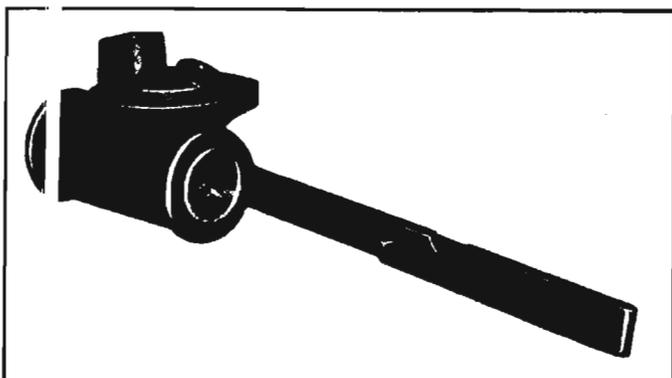

Fig. 5-23—Checking Wheel Cylinder Piston Fit
3. Check fit of the piston in the cylinder bore, using a feeler gauge (fig. 5-23). This clearance should be from .002"-.004". If clearance exceeds .004", replace cylinder.